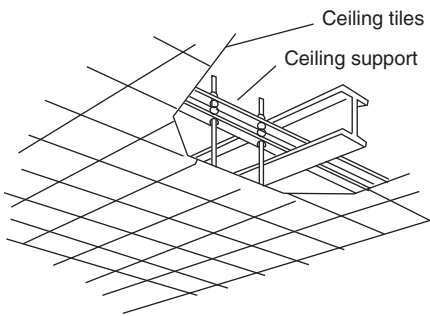

Fig. 3-74
- Use existing ceiling supports or construct a suitable support as shown in Fig. 3-74.